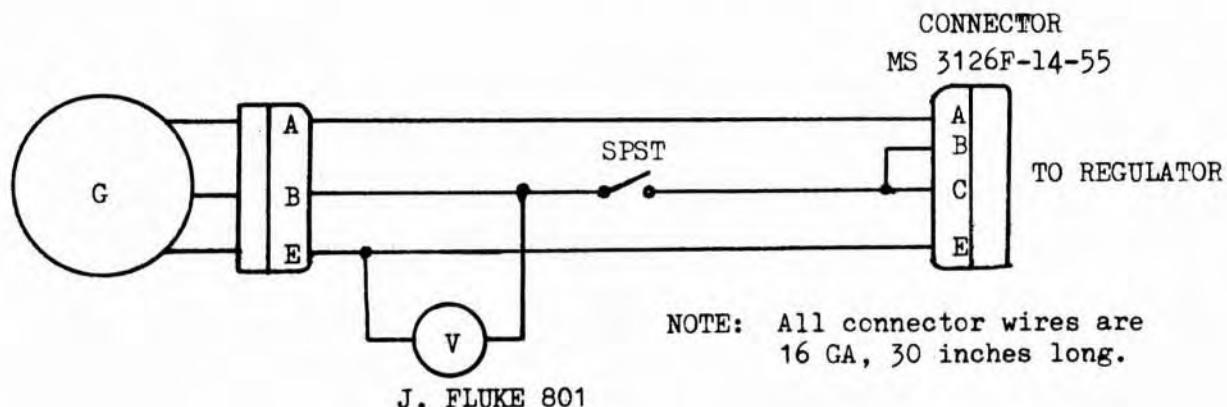

Figure 9-5. DC Generator and Regulator Adjustment Connections, Cabling Diagram
9-59. A drive stand capable of delivering 3570 to 6000 RPM, and a test harness (figure 9-5) is required to check and adjust the DC generator and voltage regulator.
- B. Connect the voltage regulator as shown in figure 9-5 using wire lengths and gages indicated.